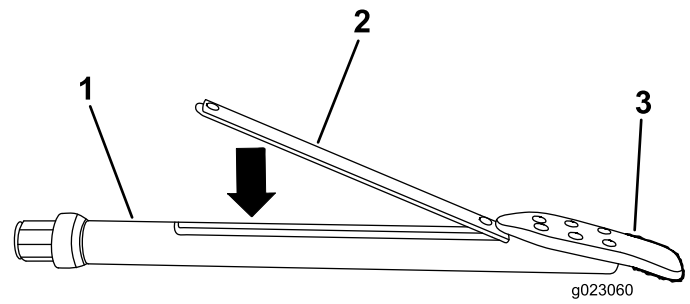

Figure 74
3. Insert the sonde beacon with the forward end toward the drill bit into the sonde housing (Figure 74).